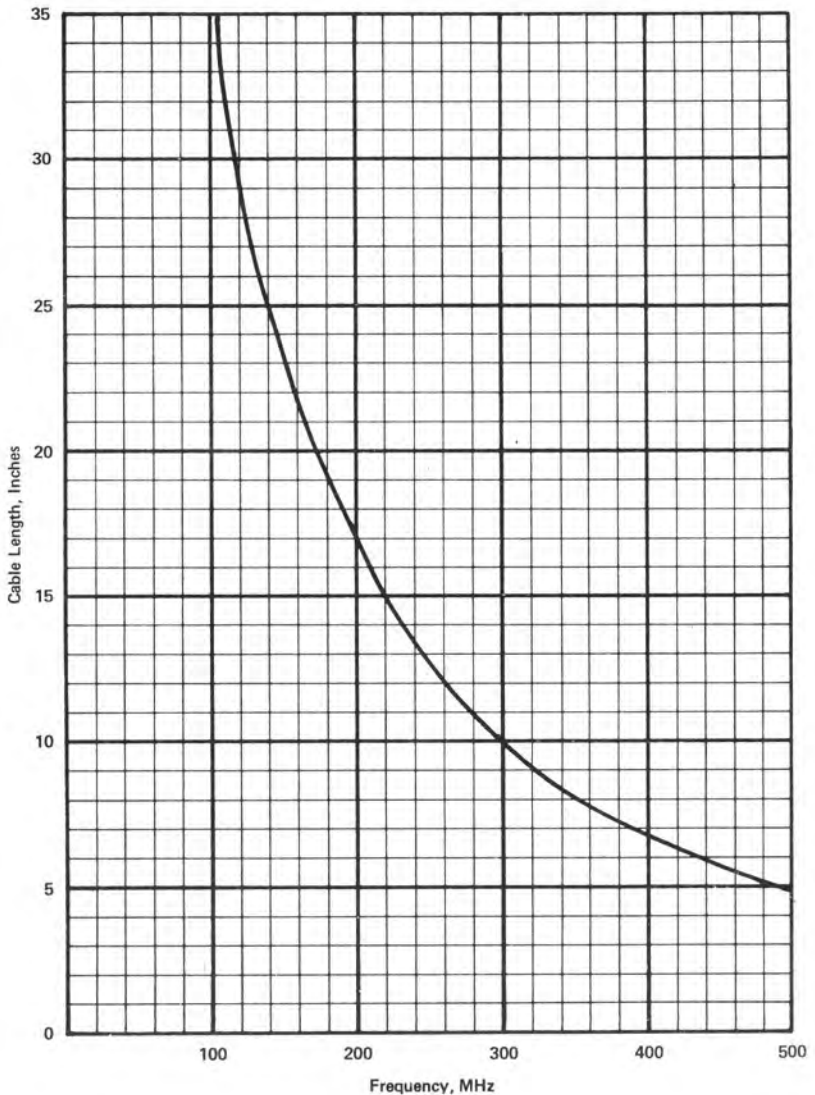

Figure 7-3 – One-Half Wavelength Coaxial Line
7.04 Figure 7-3 will furnish the user with a chart for fabricating 1/2 wavelength coaxial line used in conjunction with the Model 44 Watt Meter to minimize measurement errors in rf systems with high VSWR.